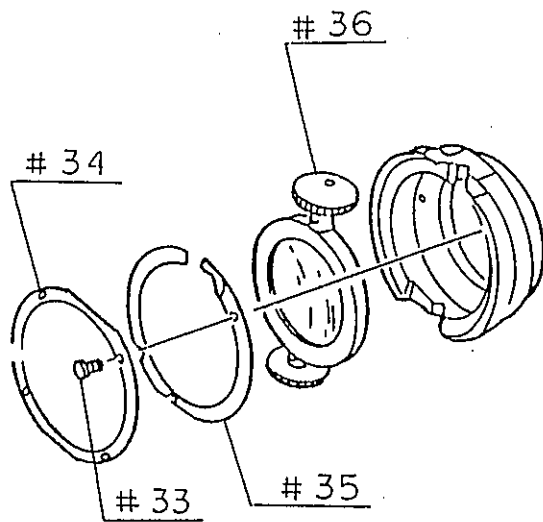

FIG. 9
⑥ Replacing the cross cylinder
1. Loosen four screws CRs 2x3 (#23) and remove an indicator plate (#34) and spring (#35). Then, replace the cross cylinder (#36). (See Fig. 9)
(Fig. 9)
5) Apply grease (005) to parts #41 and #42. (See Fig. 9)